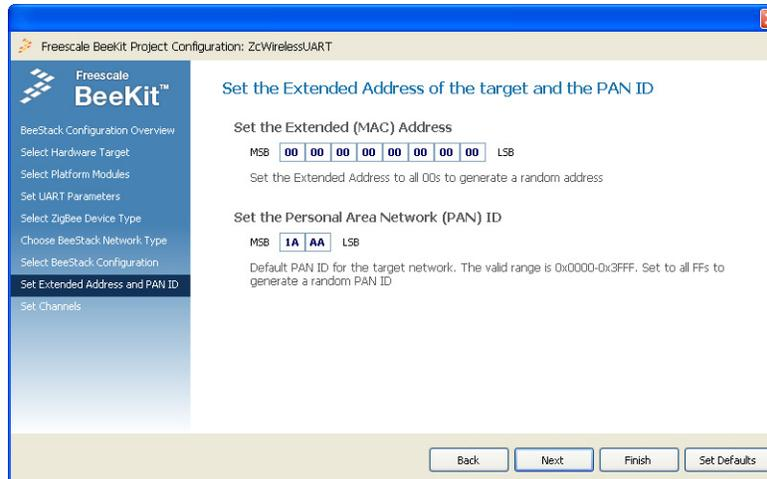

Figure 5-10. Extended Address and PAN ID Selection Page
9. Click the Next button and the Set Extended Address and PAN ID window appears as shown in Figure 5-10. For this example, leave the Extended Address option with all zeros. BeeStack automatically generates a random (but not guaranteed unique) address. Alternatively, enter the full MAC address from the label on the development board. Leave the default PAN ID set to 0x1AAA.
6. Click the Next button and set the Extended address and PAN ID the same as it was for the Coordinator as shown in Figure 5-10.